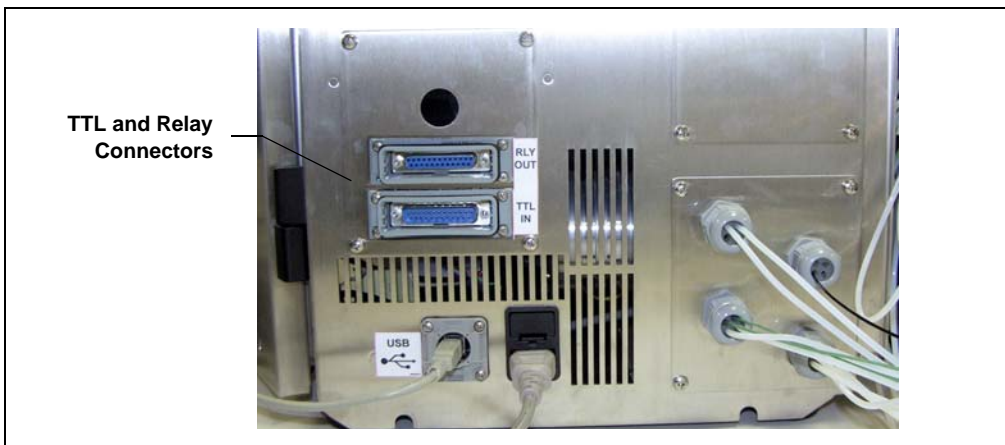

Figure C-12. TTL and Relay Connectors on Side of External SP
- **To connect to an external SP:** Plug the breakout boards into their corresponding connectors on the side of the SP (see Figure C-12).